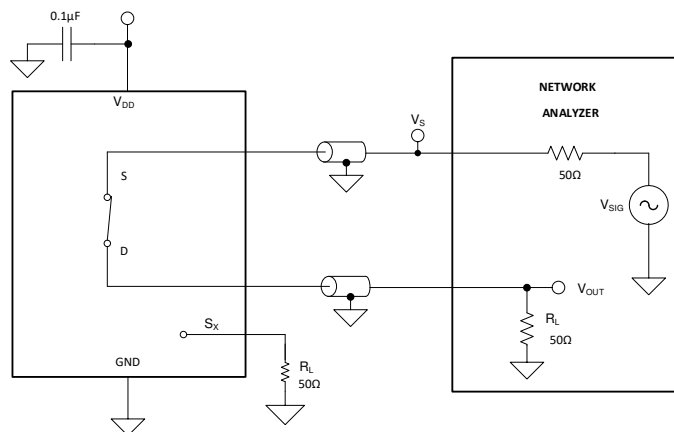

Figure 8-10. Bandwidth Measurement Setup
Bandwidth is defined as the range of frequencies that are attenuated by less than 3 dB when the input is applied to the source pin (S_x) of an on-channel, and the output is measured at the drain pin (D) of the device. Figure 8-10 shows the setup used to measure bandwidth.